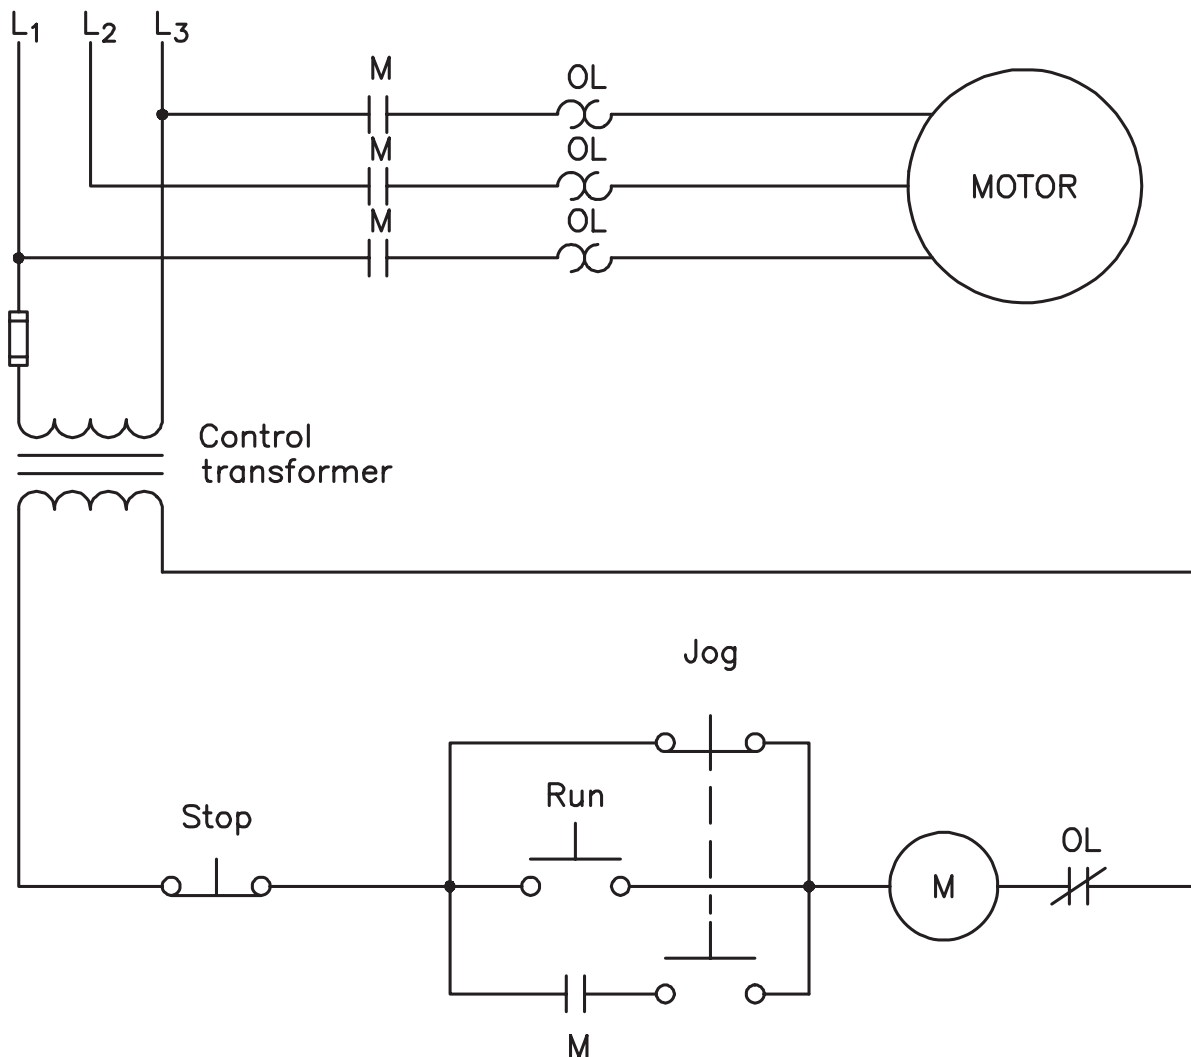

Figure 30-10 Jog button has been connected incorrectly.
3. Refer to the circuit shown in Figure 30-10. In this circuit, the jog button has been connected incorrectly. The normally closed section has been connected in parallel with the run push button and the normally open section has been connected in series with the holding contacts. Explain how this circuit operates.